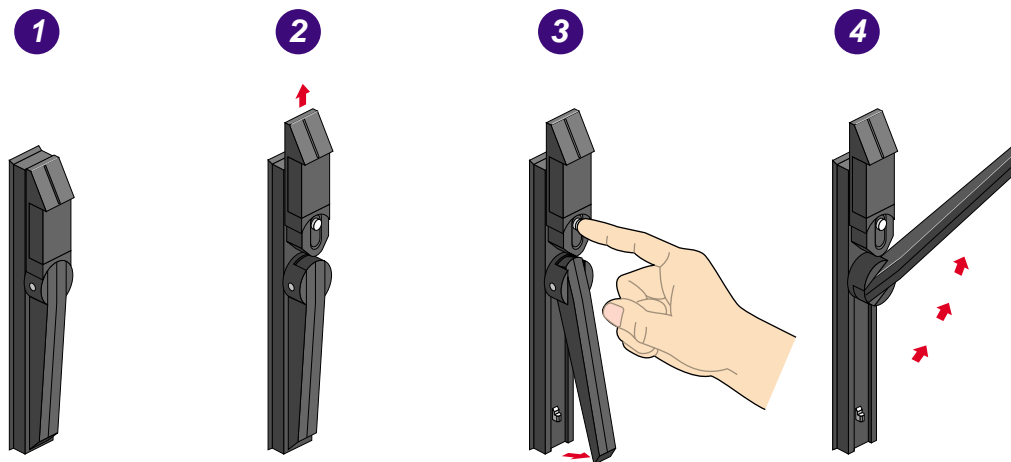

Figure 1-18 Opening the Rack Rear Door
2. Push up the top part of the latch, as shown in the second panel of Figure 1-18.
3. Press the button as shown in the third panel of Figure 1-18. This action releases the door lever.
4. Pull the door lever up and to the right, to approximately the 2 o'clock position, as shown in the fourth panel of Figure 1-18. The door opens.
To close the door, lift the locking brace at the bottom. Then reverse the steps shown in Figure 1-18 to latch the door.